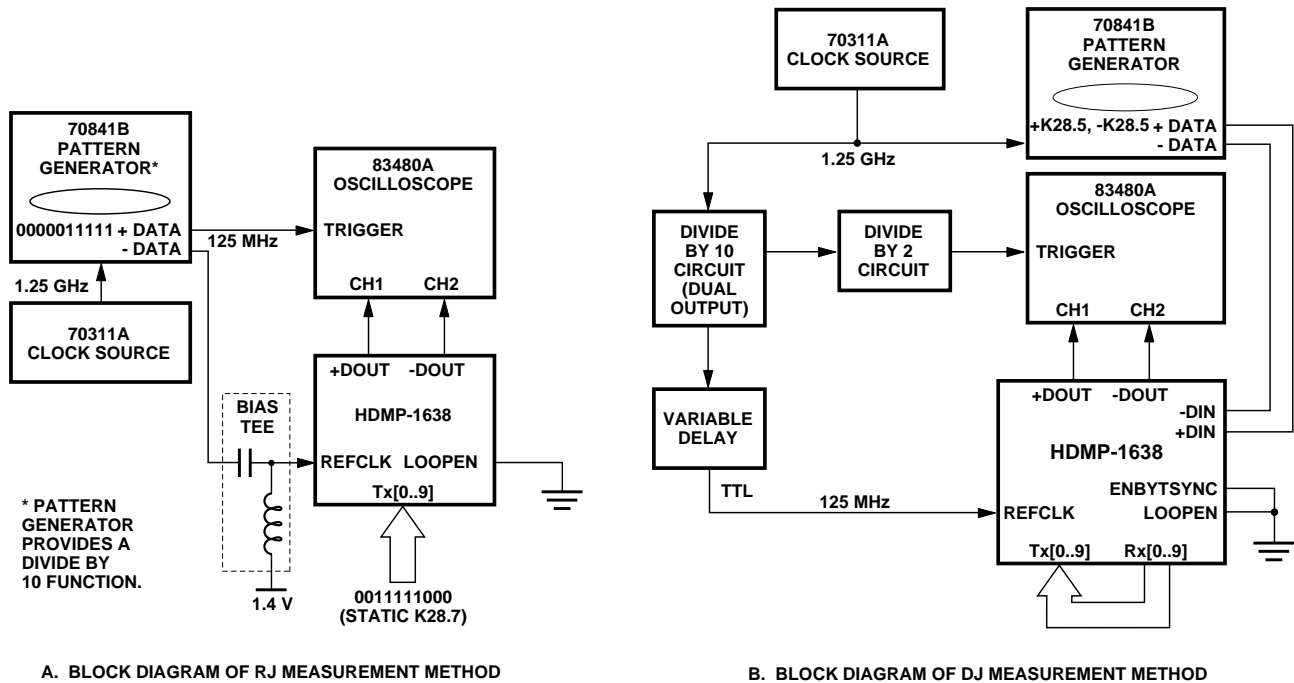

Figure 8: Transmitter Jitter Measurement Method.
1. Defined by Fibre Channel Specification X3.230-1994 FC-PH Standard, Annex A, Section A.4 and tested using measurement method shown in Figure 8.